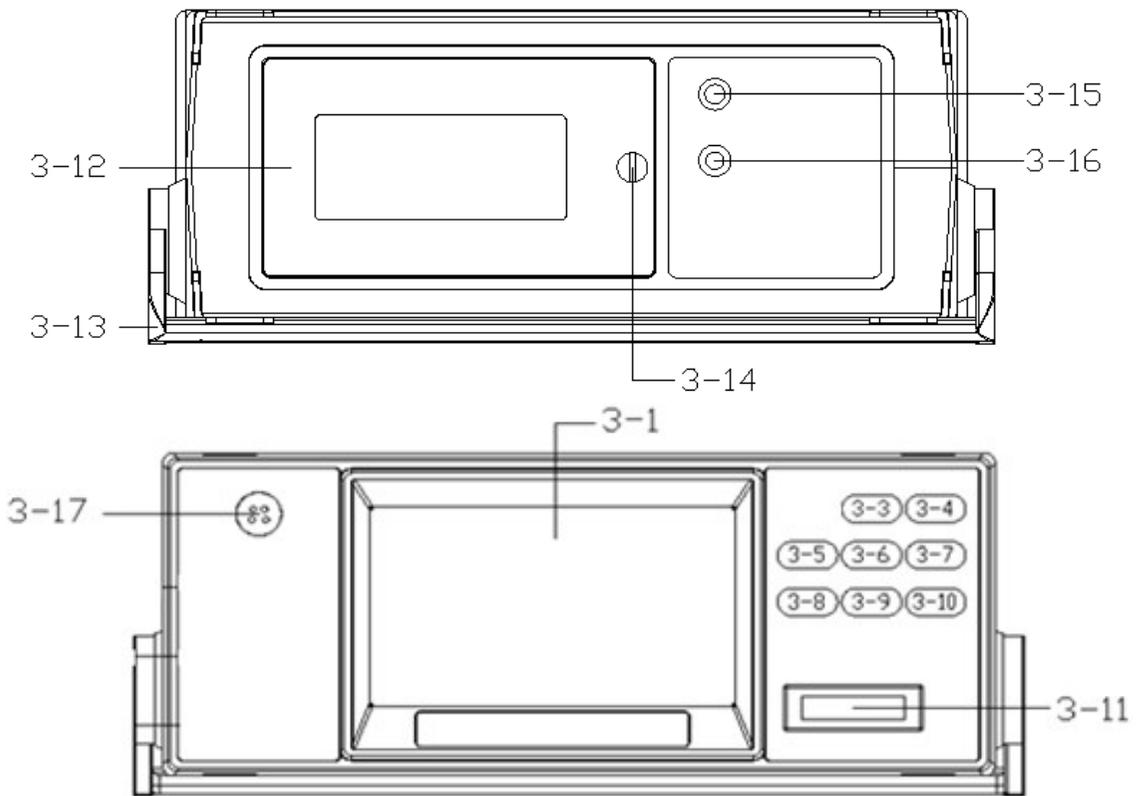
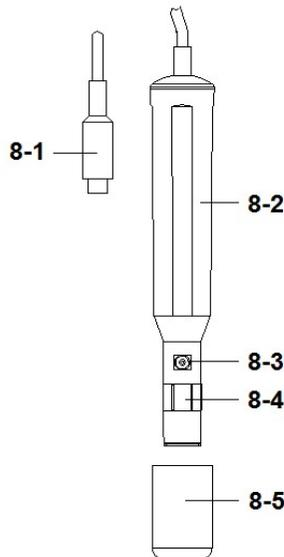

Fig. 1
Fig. 5
1) Turn on the meter by pressing the " Power Button " ( 3-9, Fig. 1 ) momentarily.
\* *Pressing the " Power Button " ( 3-9, Fig. 1 ) continuously and > 2 seconds again will turn off the meter.*
Use the " Function Button " ( 3-5, Fig. 1 ) Key to select intent test function. Display will show the following text in sequence :
- 1) Prepare the Oxygen Probe ( optional, DOPB-11 ), install the " Probe Plug " ( 8-1, Fig. 5 ) into the " DO Socket " ( 3-17, Fig. 1 ).
- 2) Power on the meter by pressing " Power Button " ( 3-9, Fig. 1 ) once.
Use the " Function Button " ( 3-5, Fig. 1 ) Key, select to O2 measurement Function.
- 1) Install the " Probe Plug " ( 8-1, Fig. 5 ) into the " DO Socket " ( 3-17, Fig. 1 ).
- 2) Power on the meter by pressing " Power Button " ( 3-9, Fig. 1 ) > 2 sec..
- 4) Use the two fingers to press the " ▲ Button " ( 3-6, Fig 1 ) and " ▼ Button " ( 3-7, Fig. 1 ) continuously at least 2 seconds , the display will show the following screen A. then release the both fingers.
Use the " Function Button " ( 3-5, Fig. 1 ) Key select to " dO" test Function , Display unit will show " mg/L " .
- 5) **When not use the probe, should insert the " Probe head " into the " Probe protection cover " ( 8-5, Fig. 5 )**
During the measurement, press the " Hold Button " ( 3-3, Fig. 1 ) once will hold the measured value & the LCD will display a " HOLD " symbol. Press the " Hold Button " once again will release the data hold function.
- 1) The data record function records the maximum and minimum readings. Press the " REC Button " ( 3-4, Fig.1 ) once to start the Data Record function and there will be a " REC. " symbol on the display.
- a) Press the " REC Button " ( 3-4, Fig. 1 ) once, the " REC. MAX. " symbol along with the maximum value will appear on the display.
- b) Press the " REC Button " ( 3-4, Fig. 1 ) again, the " REC. MIN. " symbol along with the minimum value will appear on the display.
- c) Press the " REC Button " ( 3-4, Fig. 1 ) again, *the display will show the " REC. " symbol only & execute the memory function continuously.*
After power ON, the " LCD Backlight " will light automatically. During the measurement, press the " Backlight Button " ( 3-9, Fig. 1 ) once will turn OFF the " LCD Backlight ". Press the " Backlight Button " once again will turn ON the " LCD Backlight " again.
press the " SET Button " ( 3-8, Fig. 1 ) continuously at least two seconds will enter the " Advanced Setting " mode.
then press the " SET Button " ( 3-8, Fig. 1 ) once a while in sequence to select the eight main function, the display will show :